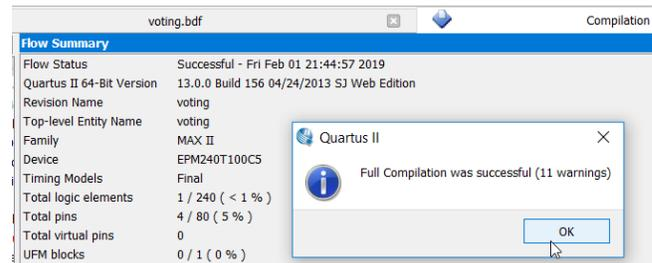

Figure 19. Compilation success.
18. From the top menu, choose **Processing** ➤ **Start Compilation**. We can also simply click on Start Compilation button on the toolbar. The compilation report is shown in Figure 19. For this tutorial, ignore all warnings. Click .